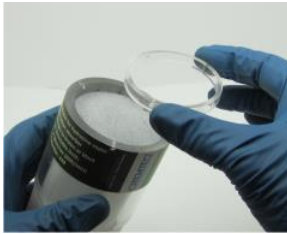

Figure 19
1.13. Replace top retainer, insure to align the green mark on retainer and the indicator (Figure 19)